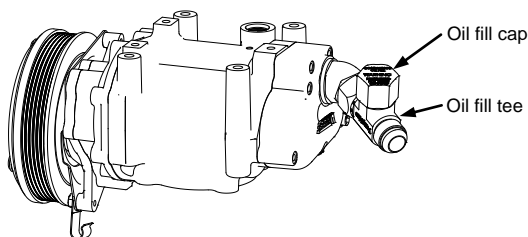

Figure 5.12
- ☐ Install the oil fill tee and cap on the compressor discharge fitting. The oil fill cap should face upwards. (Figure 5.12)